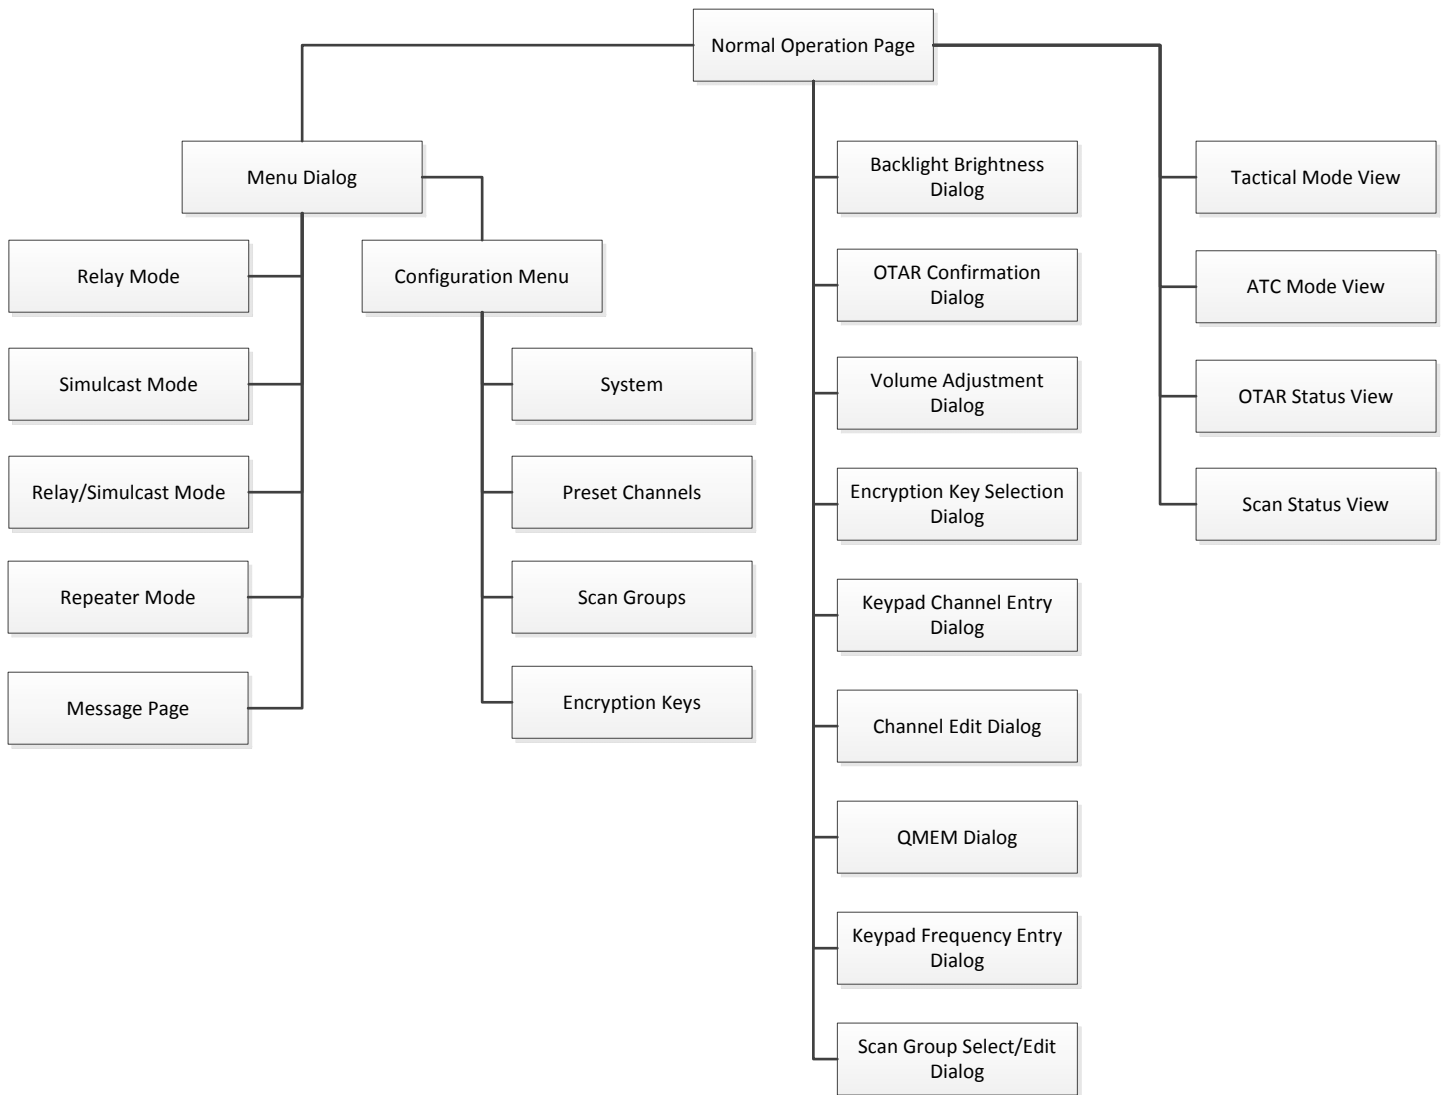

Figure 2 Display Page Tree Structure
The human interface is organized into display pages. Each display page provides the operator the ability to view specific information, or perform some specific task(s). The operator navigates from page to page by pressing keys, turning knobs, etc. Navigation can be achieved either through the touchscreen or through keys/knobs/push-button actions. Display pages are organized in a tree structure, rooted at the normal operation page. All features are three (3) actions or less from the normal operation page. Figure 2 shows the tree structure of the display pages identified in this document.
The following sections flesh out each of the display pages identified in Figure 2. The information required to display on each page is given along with known button/knob event requirements. A picture showing the desired page layout is also provided. Due to the significant differences in aspect ratio between the documentation system and the actual hardware's display, some deviation in fonts, colors, and information placement is expected, and permissible, in the implementation.